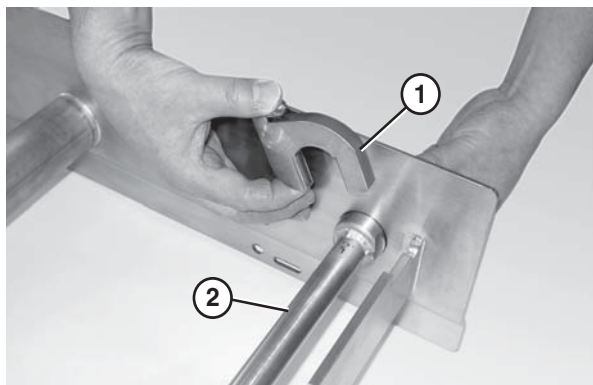

Figure 11
2. Attach the key stops (**Figure 11, item 1**) to the tip up shaft (**Figure 11, item 2**). The rounded end of the key stop should be facing the tail.